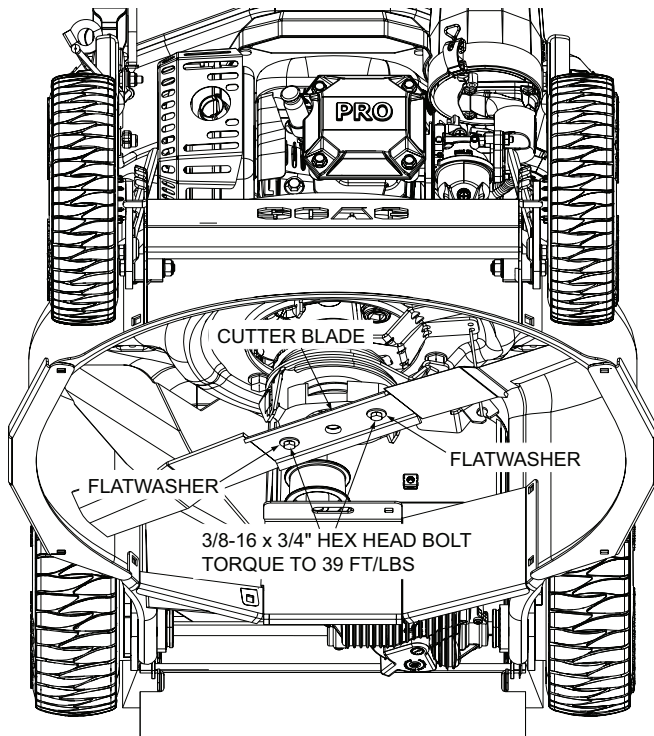

Figure 7-6. Blade Replacement
4. Secure the cutter blade to prevent it from rotating, remove the blade attaching bolts. Remove the cutter blade, bolts and flatwashers from the machine See Figure 7-6.
6. Install the cutter blade onto the machine. Secure the blades from rotating and torque to 39 ft/lbs. See Figure 7-6.